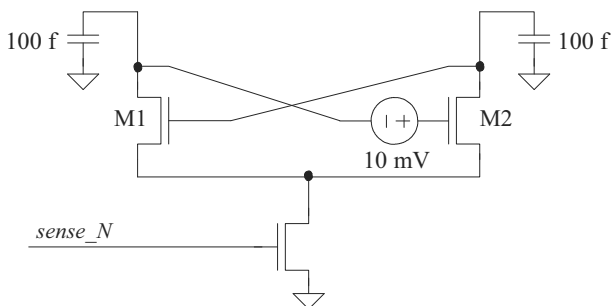

Figure 16.70 Circuit for Problem 16.3.
- 16.3 Repeat Problem 16.2 with the circuit in Fig. 16.70. In this figure M1 and M2 experience a threshold voltage mismatch (modeled by the DC voltage source seen in the figure).